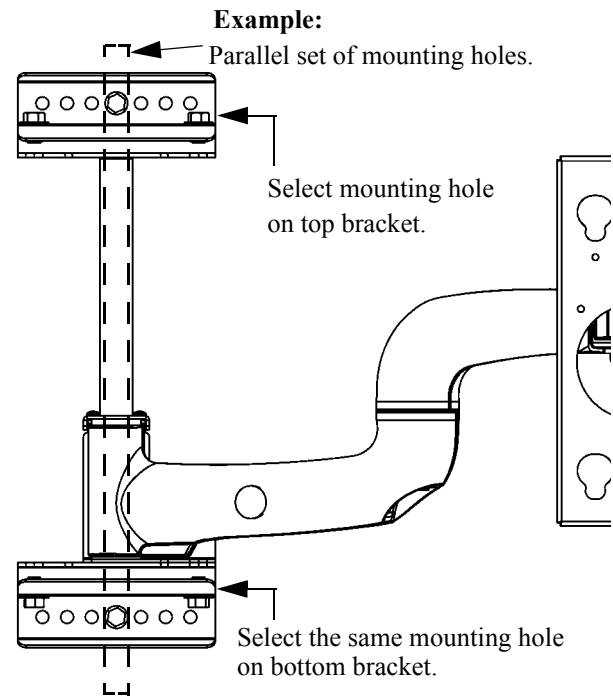

Figure 2. Select Parallel Mounting Holes
5. Select the mounting holes on the top bracket and bottom where the lag bolt will be installed (see Figure 2). Use a pencil, awl, or small nail to mark the mounting hole where the pilot hole will be drilled into the center of the wood stud.